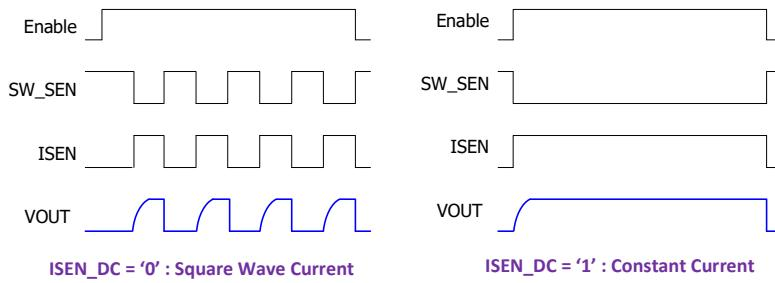

Figure 7-5: Waveform example when configure ISEN_DC = '0' & '1' (external load is resistor parallel with capacitor)
Figure 7-5 shows the sensor biasing current waveform that can be selectable by register **ISEN_DC** (0x0C.2). When **ISEN_DC** = '1', constant biasing current is fed to external sensor. On the other hands, if **ISEN_DC** = '0', biasing current will be a 50% duty cycle square waveform controlled by internal switch. The waveform frequency is equal to ADC sampling frequency which controlled by **ADC_Divider[7:0]** (D) and **ADC_Prescale[2:0]** (P) in register page. The detail of frequency is described in ADC session. The purpose of biasing the sensor square wave is required in some type of sensor.